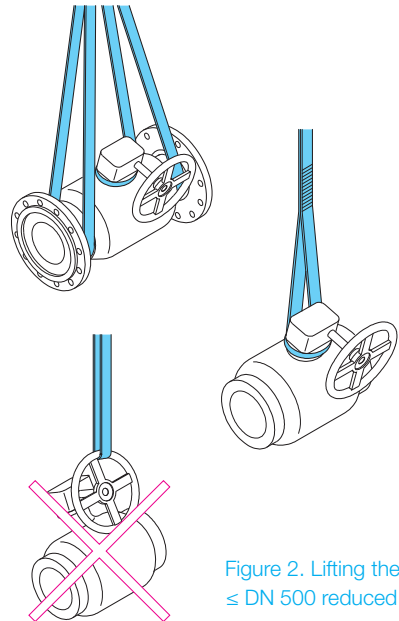

Figure 2. Lifting the valve \leq DN 500 reduced bore.
Use lifting ropes when lifting the large size valves. It is forbidden to lift the valve by its actuator or stem (see Figures 2 and 3).
- Use one of the allowed lifting methods shown in Figure 2.